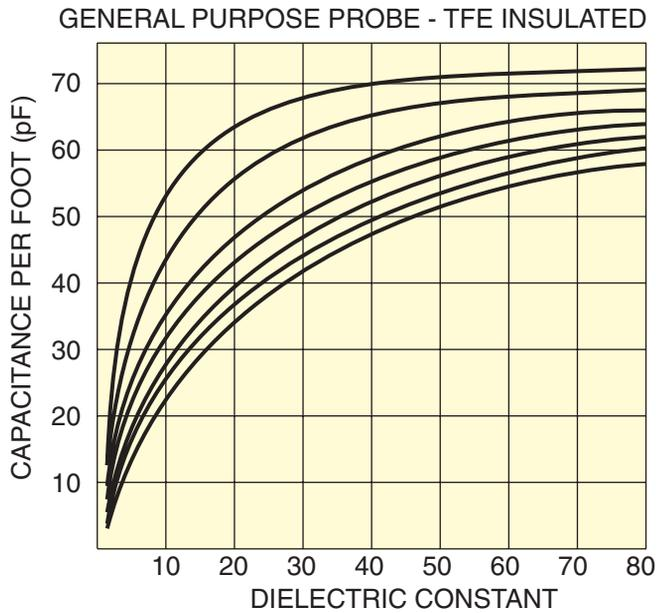

Figure 4
- **Electrode Selection**—The electrode is the primary measuring element and must be capable of producing sufficient capacitance change as it becomes submerged in the measured material. Several electrode types are offered, each having specific design characteristics. Capacitance (per foot of submersion) vs. dielectric constant curves are published for each type as installed in various size vessels. For non-conductive materials, these curves are non-linear. Figure 4 shows a typical set of curves. As the size of the tank gets smaller, the capacitance per foot of submersion increases. A conductive material essentially makes the tank be the size of the electrode insulation.
4. **Composition**—The dielectric constant of the measured material must remain constant throughout its volume. Mixing materials with different dielectric constants in varying ratios will change the overall dielectric constant and the resultant capacitance generated. Solutions having a high dielectric constant are less affected due to the saturation capacitance of the electrode system. See capacitance vs. dielectric constant curve in Figure 4.